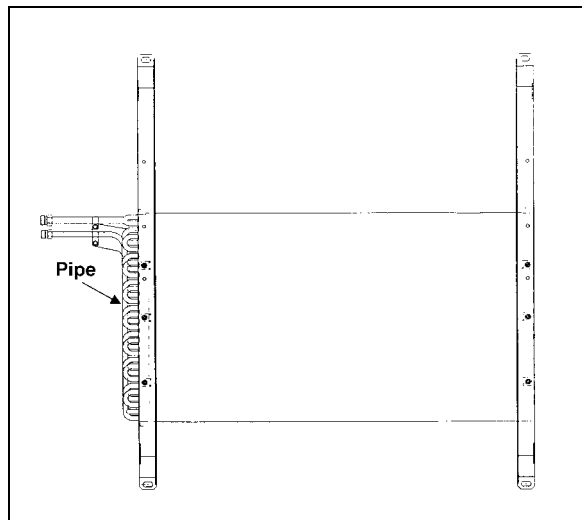

FIGURE 2 : CONDENSER
2. Find the refrigerant pipe to the left of the condenser (Fig. 2);